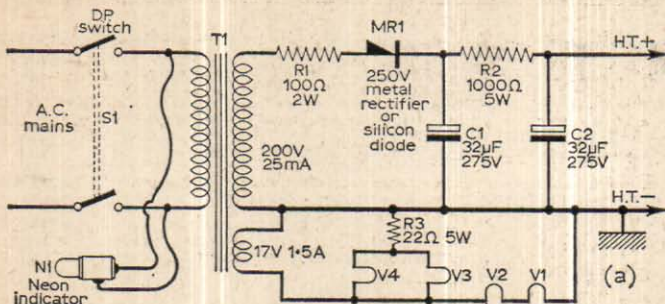
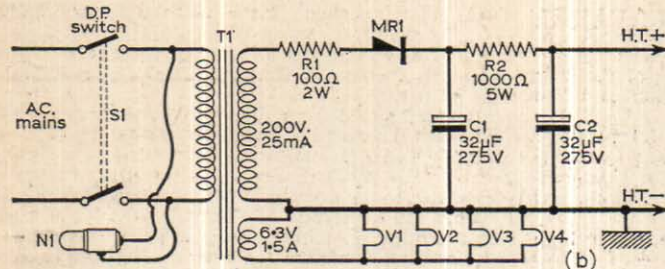

Fig. 3a—Power supply for turret tuners having series heaters.
Fig. 3b—Circuit arrangements for turrets with parallel heaters.
### COMPONENTS LIST FOR POWER SUPPLY UNIT (Fig. 3a and 3b)
- R3 22Ω 5W (Fig. 3a only)
- 6.3V 1.5A (Fig. 3a) or 17V, 1.5A (Fig. 3b)